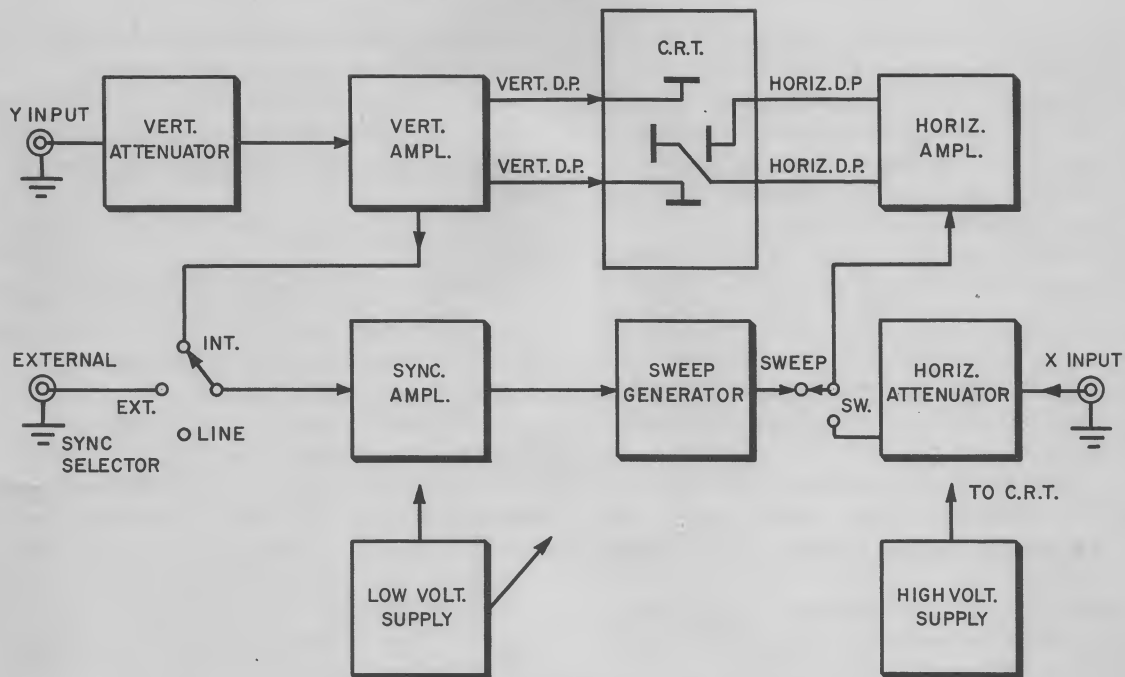

Fig. 2-1. Oscilloscope simplified block diagram.
- f. A-C VOM in checking peak-to-peak (PP) amplitude of sine or nonsinusoidal waveforms.
2. BLOCK DIAGRAM. The simplified block diagram in Fig. 2-1 illustrates certain general principles of the oscilloscope. Every manufacturer's design varies somewhat from other designs. However, most servicing oscilloscopes (scopes) are basically similar.
The heart of the cathode-ray oscilloscope is the cathode-ray tube indicator (refer to Fig. 2-1). These are similar to the CRT's used for TV except that